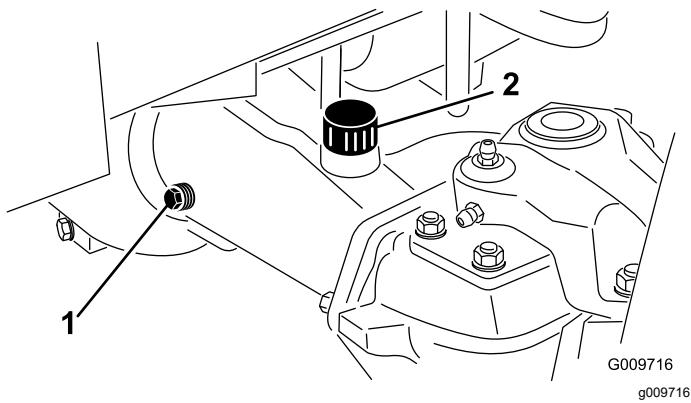

Figure 65
2. Remove a check plug from 1 end of the axle and ensure that the lubricant is up to the bottom of the hole (Figure 65).